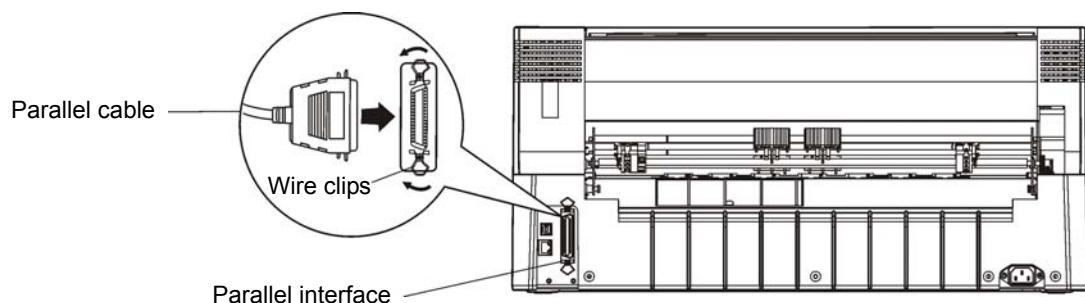

Figure 2-14 Connect to the parallel interface
Your printer can be configured with parallel interface, USB interface, serial interface or Ethernet interface, (according to the specific interface standards). Connect the printer to your computer as described below. As Figure 2-14, 2-15, 2-16 and 2-17 show.
1. Turn off both the computer and the printer. Plug the parallel cable connector securely into the printer's parallel interface. Squeeze the wire clips together until they lock in place on both sides of the connector. As shown in Figure 2-14.